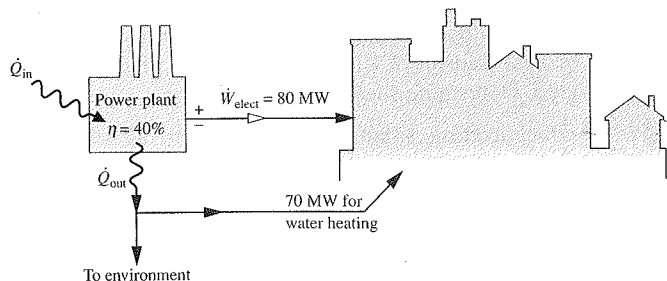

Fig. P2.87
2.87 Shown in Fig. P2.87 is a *cogeneration* power plant operating in a thermodynamic cycle at steady state. The plant provides electricity to a community at a rate of 80 MW. The energy discharged from the power plant by heat transfer is denoted on the figure by \dot{Q}_{out} . Of this, 70 MW is provided